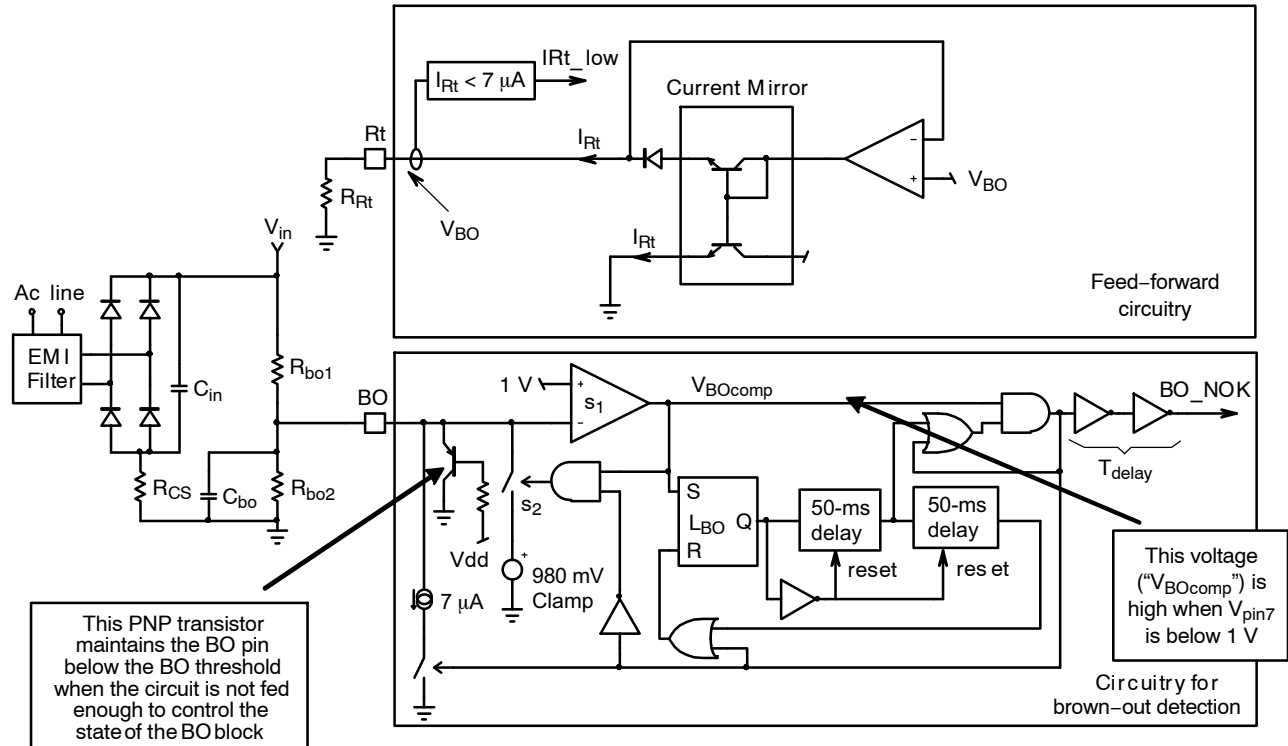

Figure 19. Brown-out Block
In nominal operation, the voltage applied to pin7 must be higher than the 1 V internal voltage reference. In this case, the output of the comparator BO_Comp (V_{BOcomp}) is low (see Figure 19).
can be detected. This is the role of the second 50- μ s timer of Figure 19:
- The OPAMP output is separated from pin7 (Figure 19) to prevent the operational amplifier from maintaining 1 V on pin7 (as done by the switches s_1 and s_2 in the representation of Figure 19). Instead, V_{pin2} drops to the value that is externally forced (by V_{in} , R_{bo1} , R_{bo2} and C_{bo2} in Figure 19). As a consequence, the OPAMP output remains high and the “BO_NOK” signal stays high until the line recovers.
As shown by Figure 19, The BO circuit also generates an internal current proportional to the input voltage average value (I_{Rt}). The pin7 voltage is buffered and made available on pin 3. Placing a resistor between pin 3 and ground, enables to adjust a current proportional to the average input voltage. This current (I_{Rt}) is internally copied and squared to form the charge current for the timing capacitor of each phase. Since this current is proportional to the square of the line magnitude, the conduction time is made inversely proportional to the line magnitude. This feed-forward feature makes the transfer function and the power delivery independent of the ac line level. Only the regulation output (V_{REGUL}) controls the power amount. If the I_{Rt} current is too low (below 7 μ A), the controller goes in OFF mode to avoid damaging the MOSFETs with too long conduction time.